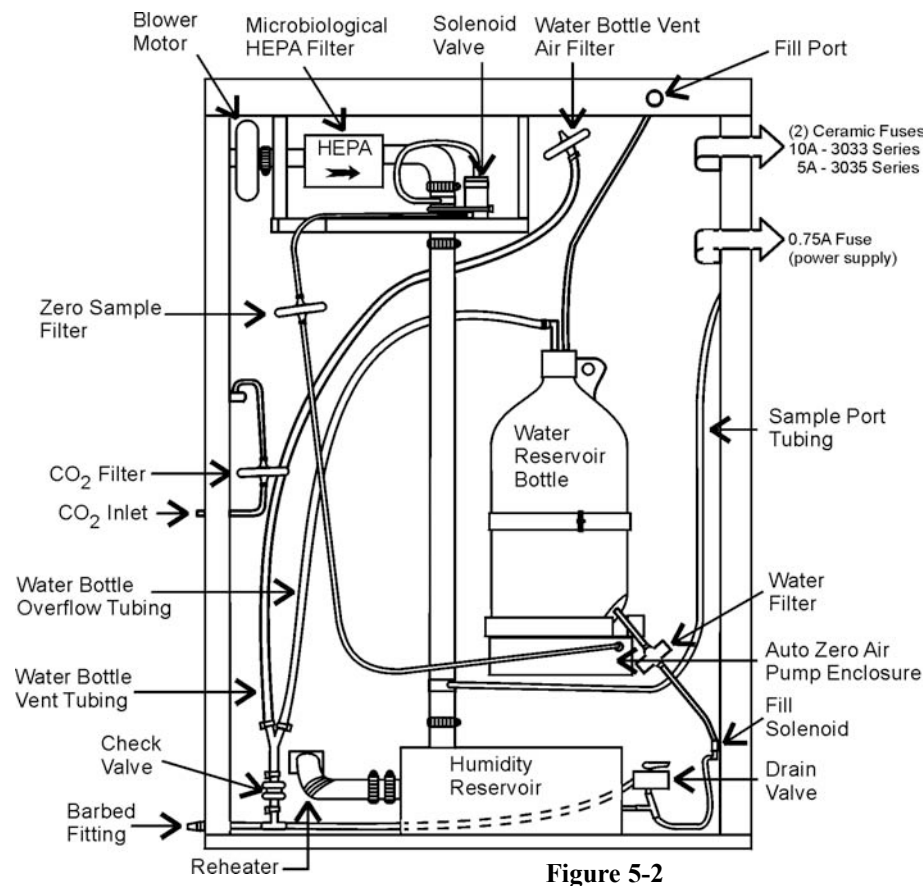

Figure 5-2
4. Locate the CO2 filter about halfway up the left side. (It will be connected to the hose leading to the CO2 gas fitting on the back of the incubator. (See Figure 5-2.)
4. Locate the Zero Sampler Filter installed in the clear vinyl tubing connected between the upper solenoid valve and the air pump located beneath the reservoir bottle. See Figure 5-2.
5. Remove the fiber insulation to expose the filter. Refer to Figure 5-2.